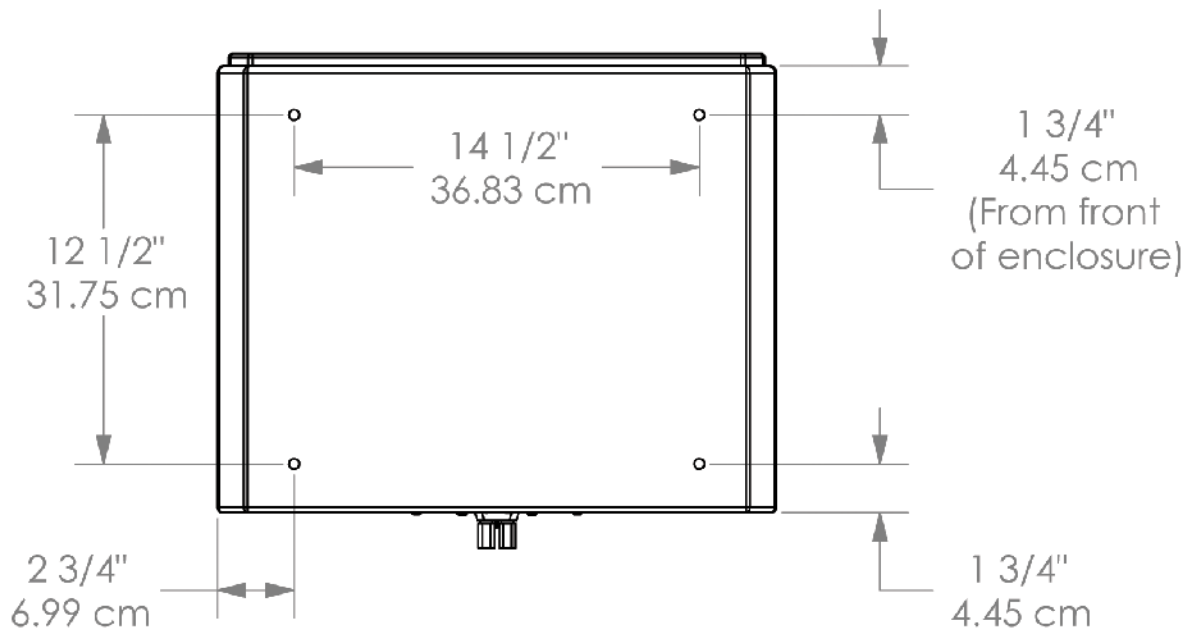

FIGURE 18 – CENTER MOUNTING HOLE LOCATIONS
- The slanted portion of the bracket will require mounting holes whose location match those on the bottom of the Center channel. The hole pattern is shown in Figure 18.
The custom made bracket must have 4 mounting holes as shown in Figure 18 (opposite page). These holes will allow the Center channel to be bolted to the mount. Make sure that the holes go all the way through the bracket and that the locations are such that they will allow a nut to be tightened to the bolt that is inserted through these holes.